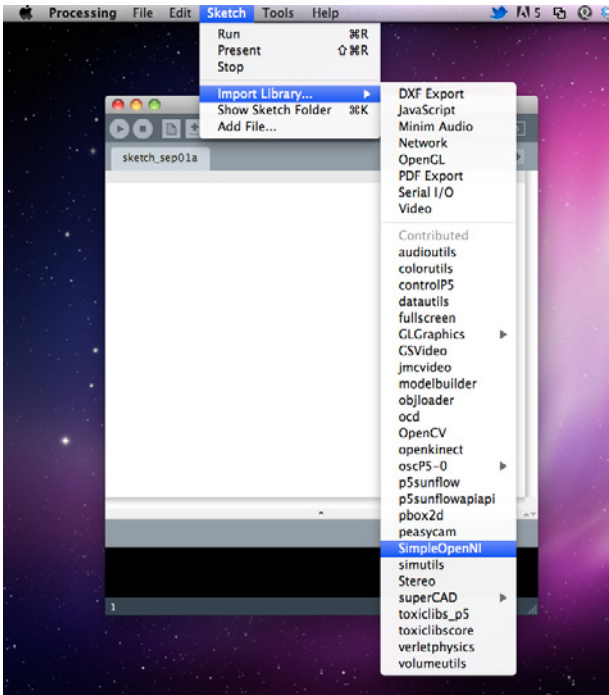

Figure 2-3. After a successful install, SimpleOpenNI shows up in Processing's list of libraries.
- SimpleOpenNI should now show up in Processing's list of installed libraries (Figure 2-3). You can confirm this by looking for it under the Sketch→Import Library menu.